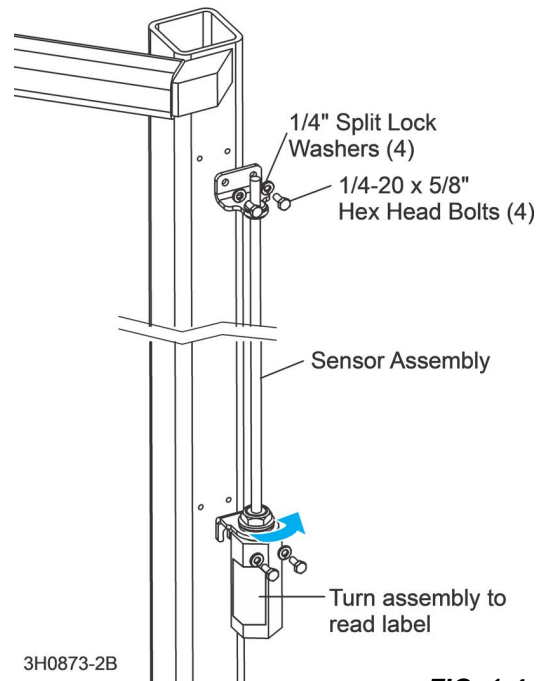

FIG. 1-4
4. Install two of the provided 1/4" lock washers and 1/4-20 x 5/8" hex head bolts to the bottom set of threaded holes in the mast. **See Figure 1-4**